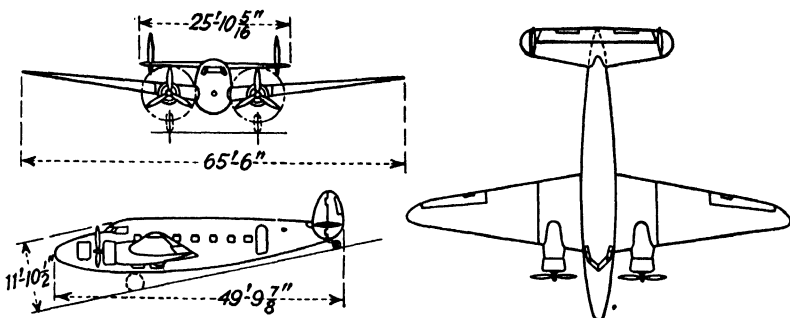

Fig. 314.—Lockheed Lodestar twin-engine transport. (Courtesy of Aviation.)
63. Find the useful load of the airplane (Fig. 314).
67. Estimate the dihedral angle of the wing from Fig. 314.
70. This airplane (Fig. 314) carries 644 gal. of gasoline, and at cruising speed each engine consumes 27.5 gal. per hr. Approximately how long can it stay aloft?